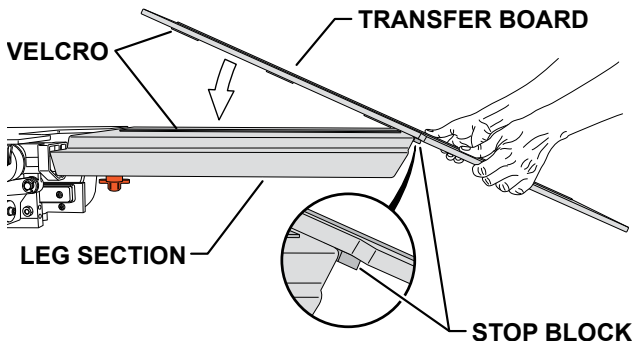

Figure 4. HyperLight Transfer Board
1. Position the transfer board stop block against the leg section. Center the transfer board with the leg section and rotate downward (Figure 4).